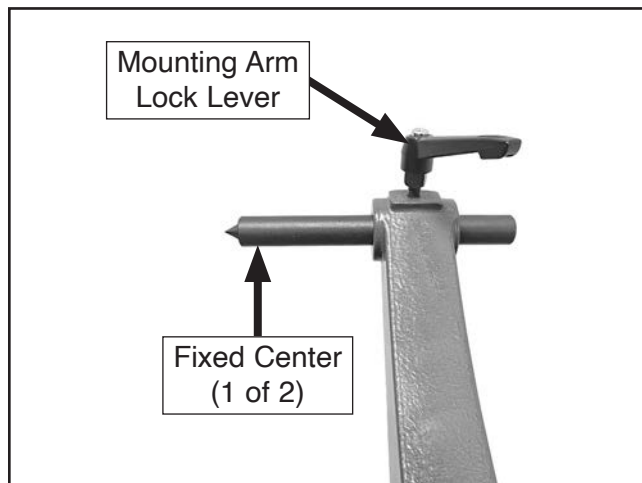

Figure 81. Fixed center installed in tailstock mounting arm.
9. Insert (1) fixed center in tailstock mounting arm with pointed end facing headstock (see **Figure 81**).